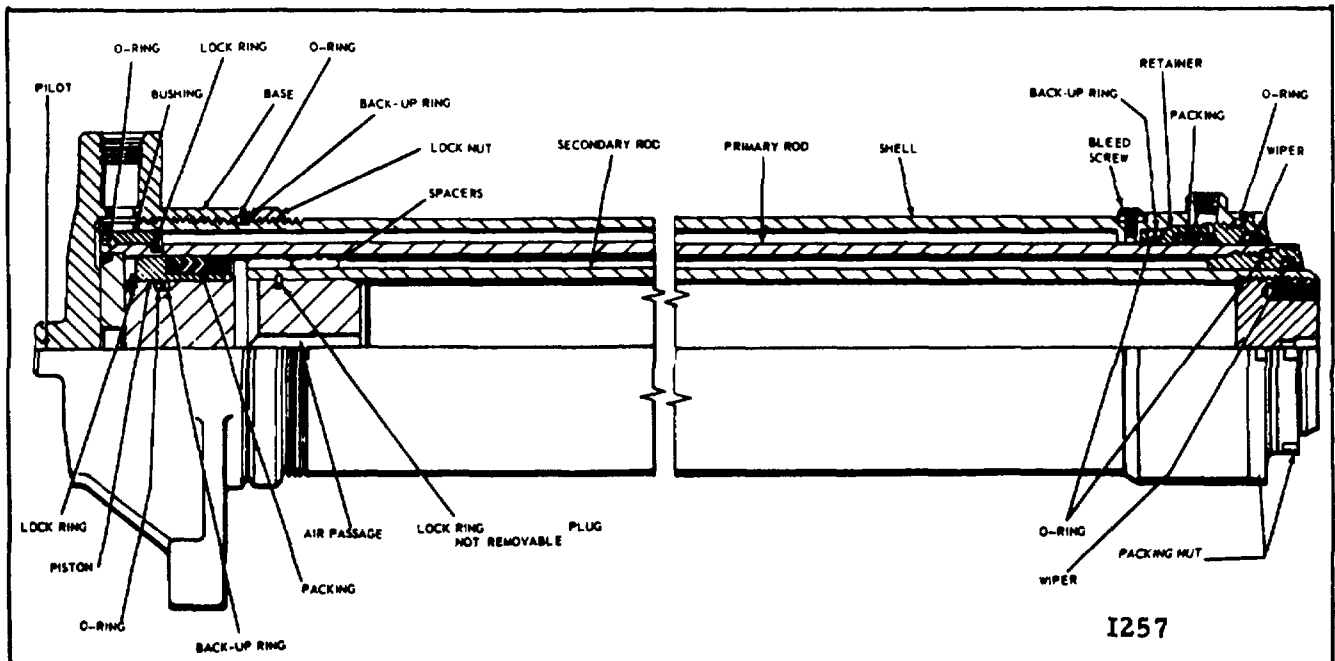

Figure 17.
The three-stage hoist cylinder used on the free lift and three-stage uprights is made up of four components: (1) Shell, (2) Primary Rod, (3) Secondary Rod, (4) Base. (Fig. 17)
### C. DISASSEMBLY (Fig. 17)
### E. ASSEMBLY AND INSTALLATION (Fig. 17)